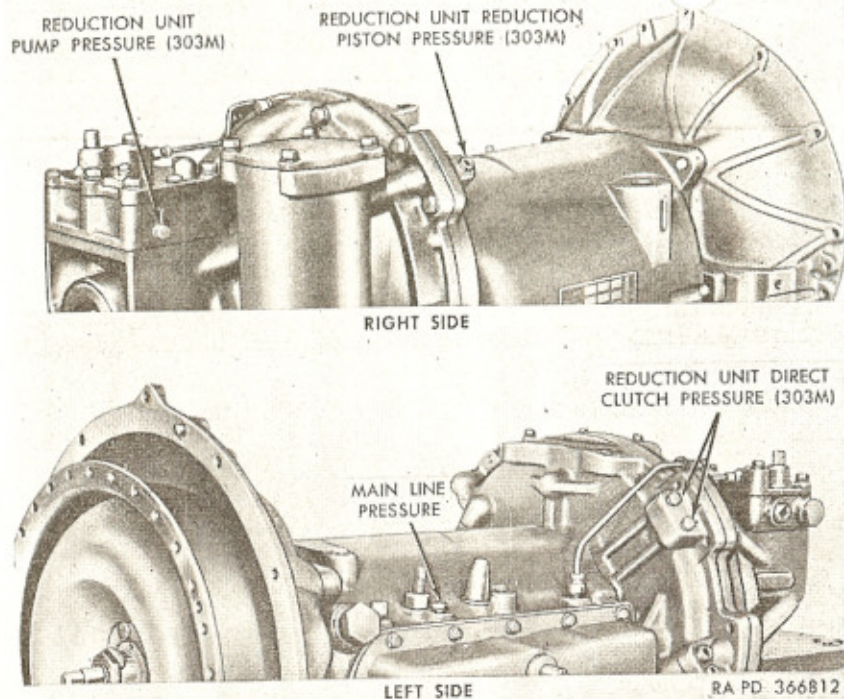

Figure 8. Connect oil pressure test gages at points indicated—(model 303M shown).
- (1) Engine and transmission must be properly attached and entire powerplant mounted on a test stand.
- (2) Remove pipe plugs and attach pressure gages-B7950330 at locations indicated in figure 8.